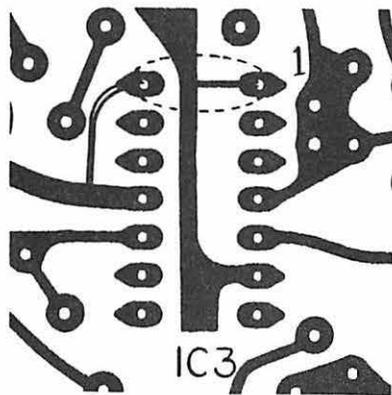

Fig. 4
6. Using Mylar sleeving over cap leads; solder .02 μ F cap to traces from IC3 pins 6 and 11. See Figure 4, below.